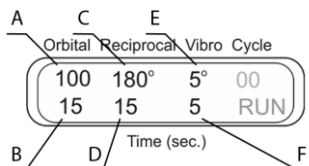
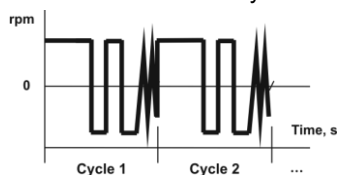

Figure 6
Figure 7
- **3D orbital + 3D reciprocal + 3D vibro** (figure 6). Set the speed (**A**, 1–100 rpm) and time (**B**, 1–250 s) of 3D orbital motion. Set the angle (**C**, 0–360°) and time (**D**, 1–250 s) for 3D reciprocal motion. It is performed at the same speed as the orbital motion. Set the turning angle (**E**, 0–5°) and time (**F**, 1–5 s) for 3D vibro type motion. Figure 7 shows 3D orbital, 3D reciprocal and 3D vibro motions run one after another in cycles.